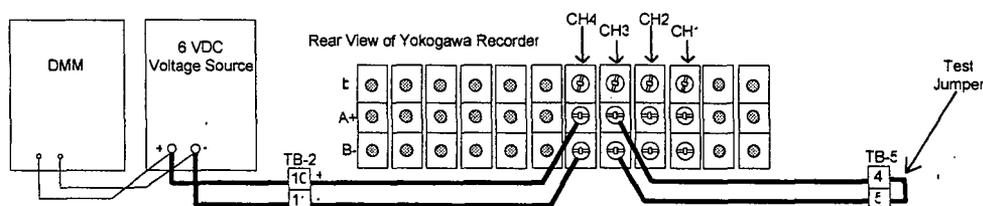

FIGURE 6
1.1.2 Connect voltage source and DMM across TB-2 (upper terminals) 10(+) and 11(-) to provide full scale input to CH3 and CH4 A/D board per Figure 6. □